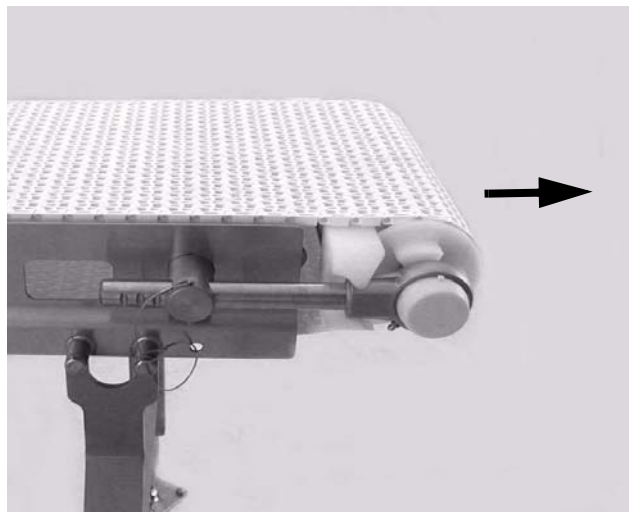
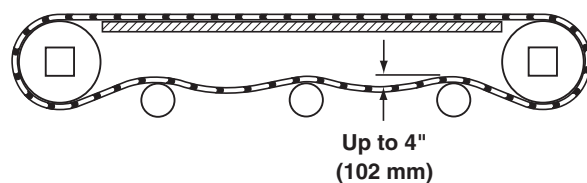

Figure 35
Figure 40
7. Extend the tension end to remove excess slack in the belt (**Figure 35**). Reference (**Figure 40**).
4. Check belt sag by measuring from the top of the return (Figure 40). Belt sag should not exceed 4" (102 mm). Follow steps 7 – 9 in the "Belt Installation" section on page 13 to remove slack from the belt.